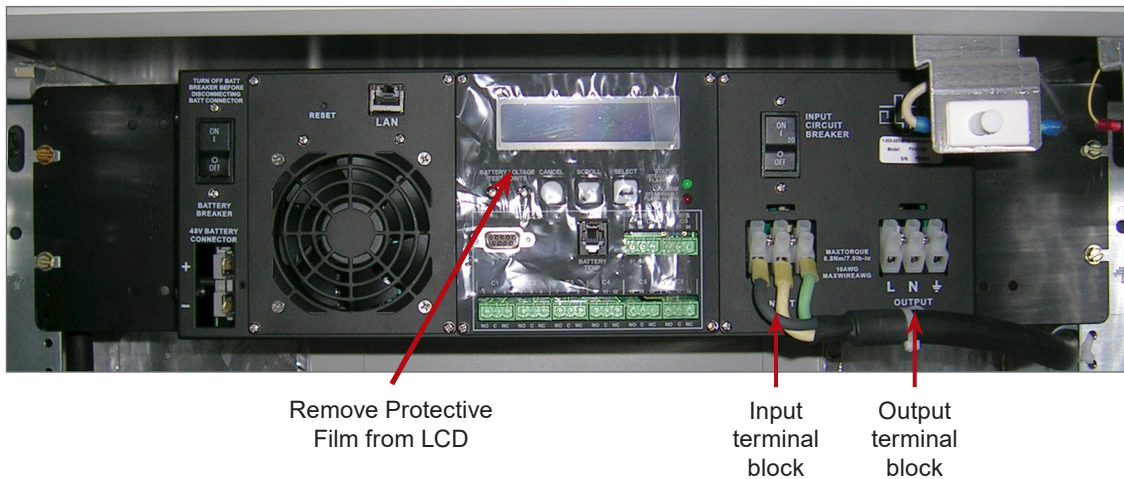

Figure 15 — Connecting AC Power Input and Output Load Cables
2. Connect the load cable to the Alpha FXM Output terminal block (see Figure 15). Torque to 1.4 N-m (12 lb-in).
3. Connect the line power to the Alpha FXM AC Input terminal block (see Figure 15). Torque to 1.4 N-m (12 lb-in).